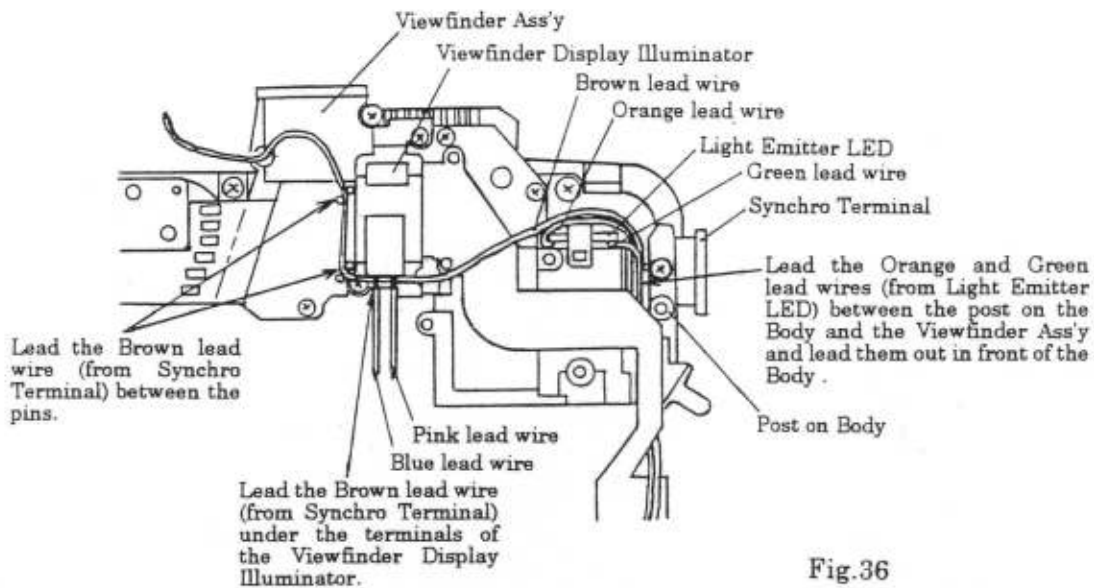

Fig.36
- 1) Dress the lead wires as shown in Figs. 36 to 38.
- d) Stick the Film Check Window Moquette (1AQ17300) in the position as shown in Fig. 36.